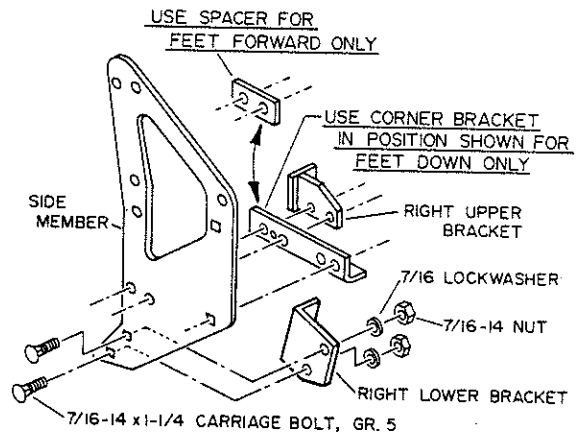
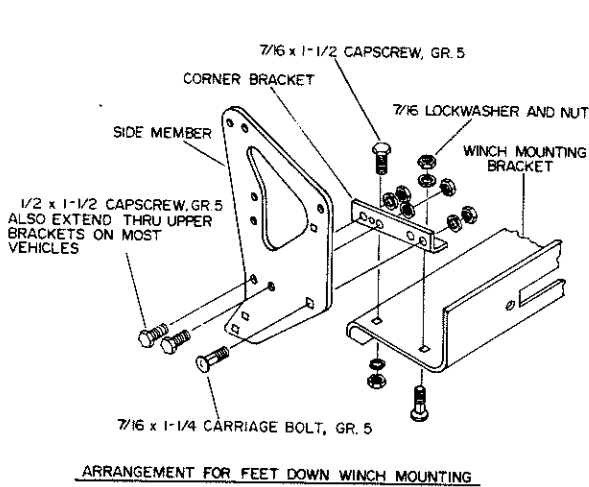
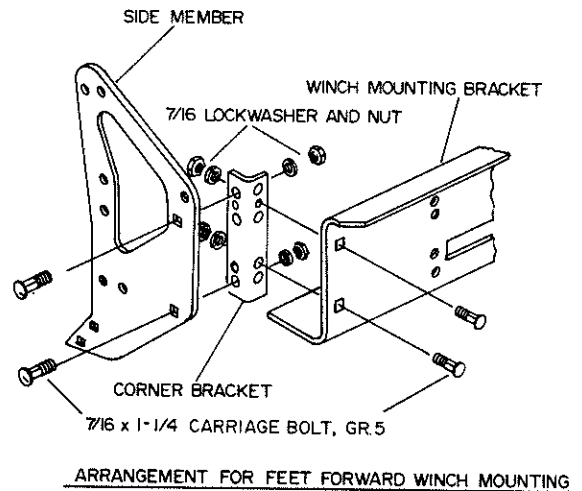

FIGURE 4
FIGURE 5
FIGURE 6
4. Install the side members as shown in **Figure 4**. Note that a choice must be made between the spacer and the corner bracket for installation between the side member and upper bracket. See **Figure 5** for fastener recommendations. For a feet down installation, the 7/16-1-1/2 hex cap screw specified in **Figure 5** should be dropped down through the center hole of the corner bracket before installing the two nuts on the 1/2 x 1-1/2 cap screws.
6. Assemble the winch mounting bracket and the corner bracket as shown in **Figure 5** or **Figure 6**.